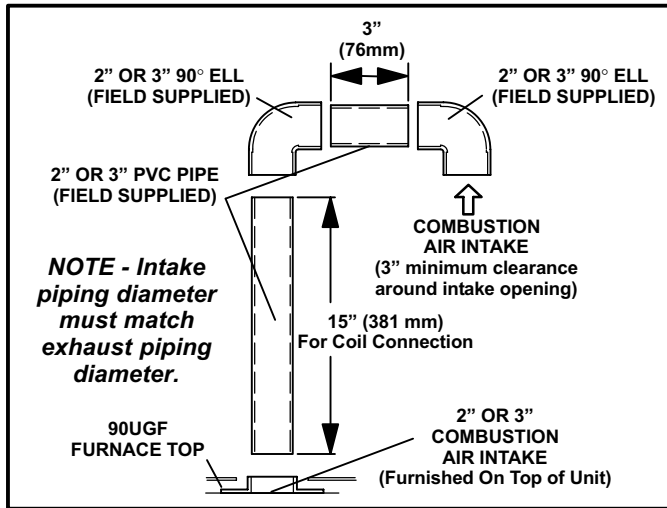

FIGURE 23
- 2 - Route piping. Figure 23 shows routing of intake piping applications where air from inside the structure is suitable for combustion. If outside air is brought in for combustion, continue with instructions given in piping termination section.